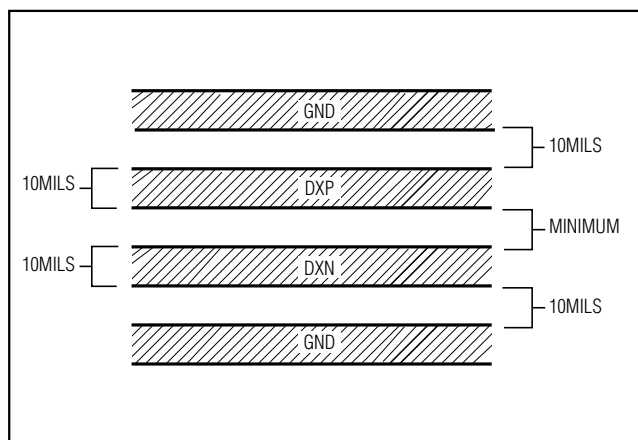

Figure 1. Recommended DXP-DXN PC Traces
- Route the DXP and DXN traces in parallel and in close proximity to each other, away from any higher voltage traces, such as $+12\text{VDC}$. Leakage currents from PC board contamination must be dealt with carefully since a $20\text{M}\Omega$ leakage path from DXP to ground causes about $+1^{\circ}\text{C}$ error. If high-voltage traces are unavoidable, connect guard traces to GND on either side of the DXP-DXN traces (Figure 1).
- Use wide traces. Narrow traces are more inductive and tend to pick up radiated noise. The 10mil widths and spacings that are recommended in Figure 1 are not absolutely necessary, as they offer only a minor improvement in leakage and noise over narrow traces. Use wider traces when practical.